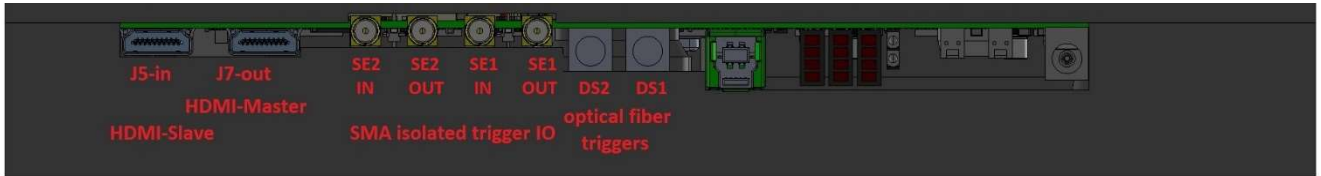

Figure 4: ADC256 front panel connectors labeled according to Input source selection.
1. connect trigger output to the analog ADC input through at least 40 dB attenuator for ADC or 80 dB attenuator for DAQ with 40 dB preamplifier, and start with small values of ADC programmable gain; see different options to inject the signal from the generator to ADC using SMA cable on Figure 3 below. ADC digital interface is described on Figure 4.